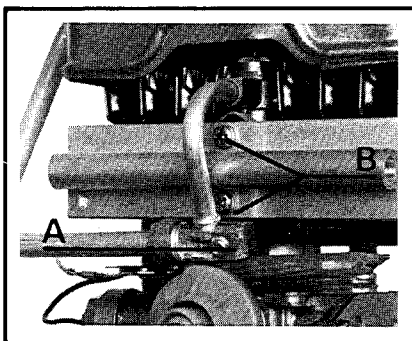

Fig. 2
2) Burner (fig. 2).
- Unscrew the pilot tube clamping screw A and remove the clamp and tube (fig. 2).